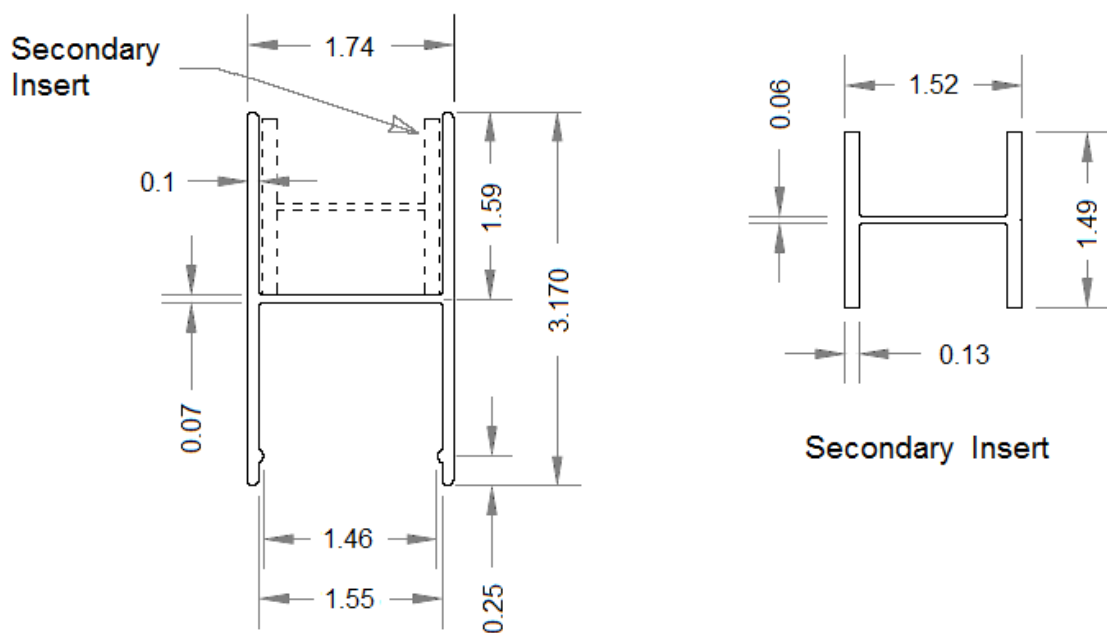

FIGURE 5 – ALUMINUM "STANDARD" H INSERT WITH SECONDARY INSERT
3.1.5.1. An extruded aluminum insert provides reinforcement in the top and bottom rail. A secondary extruded aluminum insert is used in the top rail for guardrail lengths exceeding 8-feet. See Figure 5.